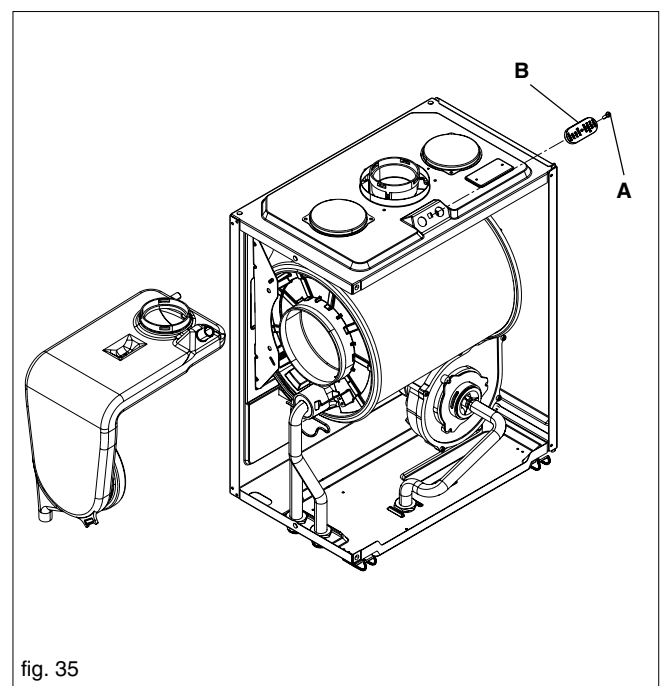

fig. 35
6.20 FLUE COLLECTOR REMOVAL (fig. 35)
Isolate the appliance from the electrical supply and remove the appliance casing as described in 4.7.1. Set the flue gas analyser to read CO₂ and insert the probe into the flue analysis test point (A, B fig. 35). Restore the electrical supply to the boiler and switch the boiler to the OFF mode. To adjust the gas valve you must first ensure that the fan speed potentiometers (trimmers) have been set correctly (see 7.3).